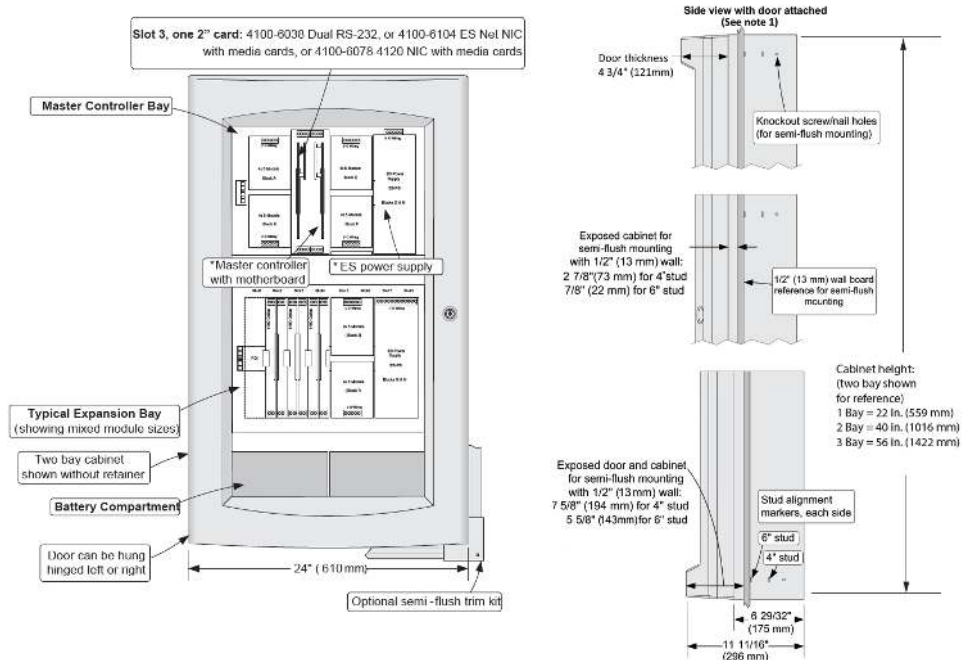

Figure 6: Mounting and CPU Bay Module Reference
2. Asterisks (*) in Figure 6 indicate supplied modules.